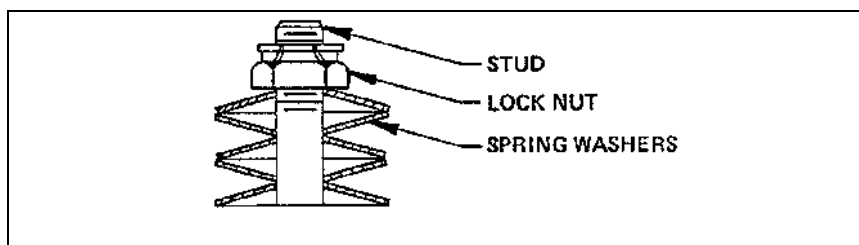

Figure 4—Spring Washer Stackup
6. Place the spring washers on the plug stud as shown in Figure 4.
5. Place the spring washers on the plug stud as shown in Figure 4.